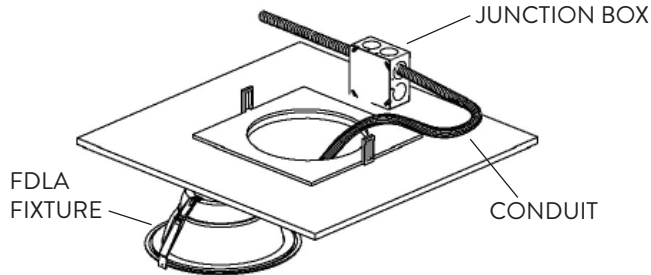

FIG. 3
- 1 Prior to installation, shut power OFF to the fixture. Attach the conduit from the fixture to the Junction Box (Fig. 3). Refer to wiring diagram.